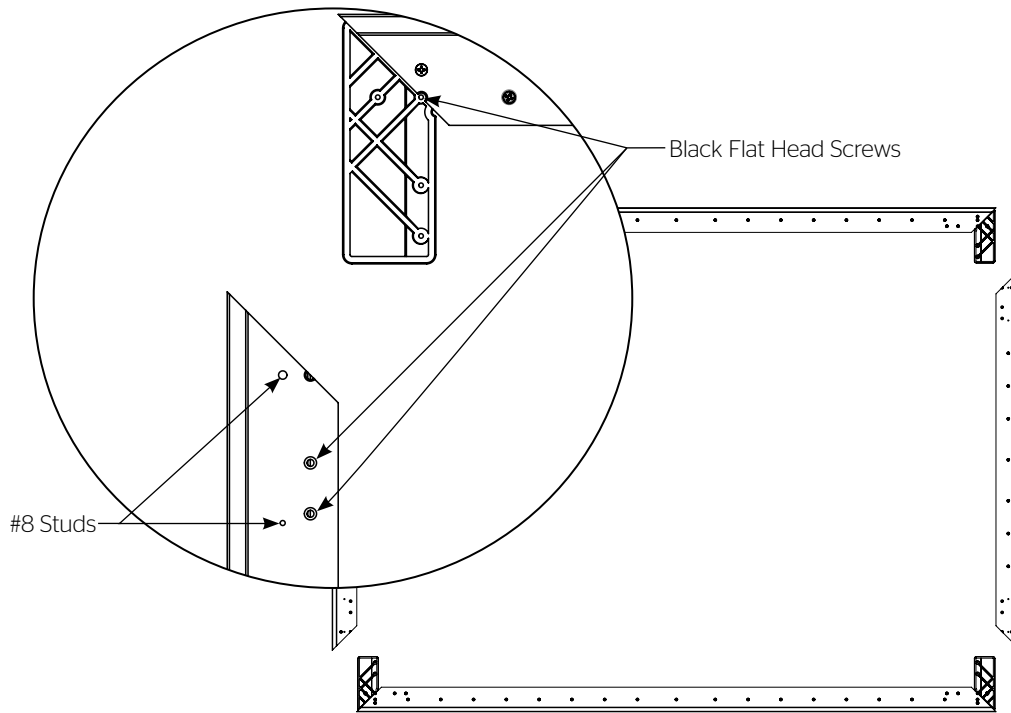

Figure 1 (Rear View)
3. Secure frame pieces with black flat head screws provided. Do not tighten screws until all are started. See Figure 1.